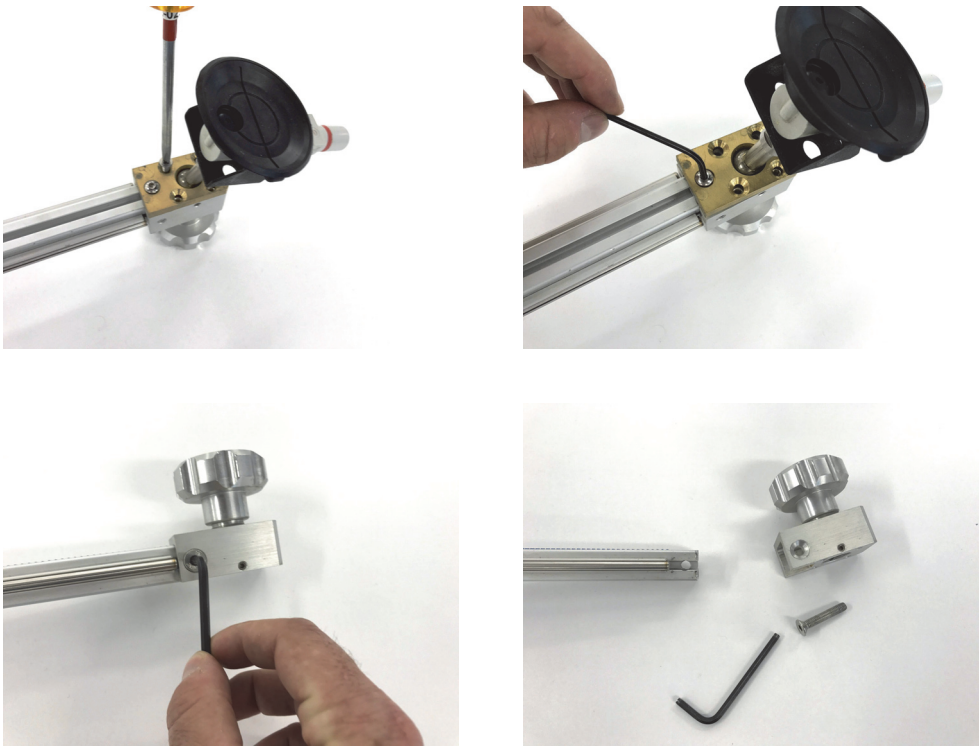

Figure 2-6 Removing a mounting pod (*top*) and pod bracket (*bottom*)
1. Remove both mounting pods from the pod brackets, and remove one of the pod brackets from the frame (see Figure 2-6 on page 31).